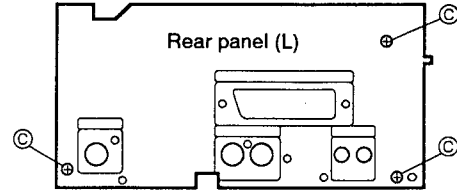

Fig. 8
- (1) Remove the three screws (C) fastening the rear panel (L). (Fig. 8)